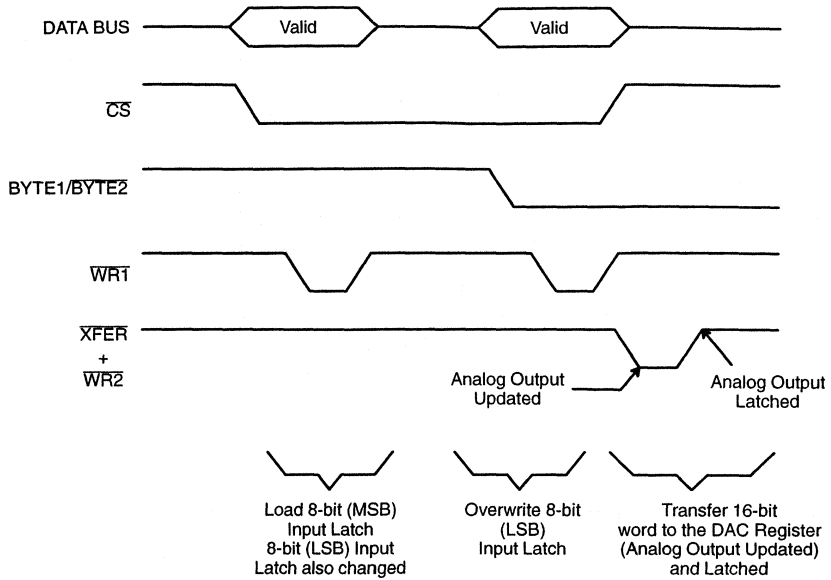

Figure 1. Typical Interface with an 8-bit Data Bus
- The timing diagrams for updating the DAC register are shown in Figures 1 and 2.